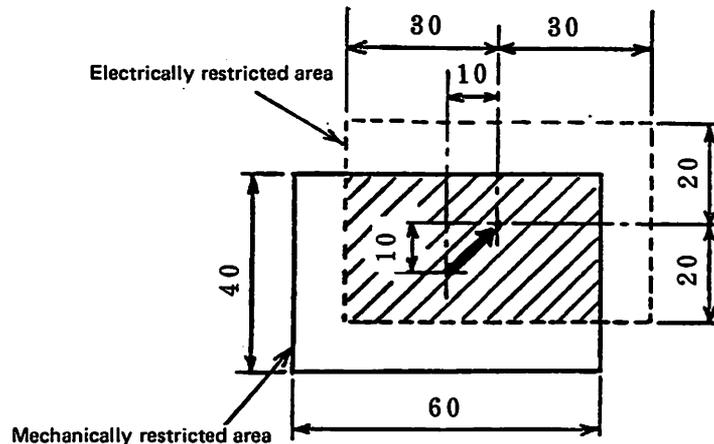

Fig. 10.26
- (4) Although the sewing area measures 60 mm by 40 mm in terms of mechanical restriction, the electrically controllable sewing area measures 30 mm each in left and right direction, and 20 mm each in forward and backward direction from the home position.
- (5) When the home position is changed, as shown by bold arrow in Fig. 10.26 for example, the sewing area is restricted to the shaded area. (Refer to para. 12.1 (C).)
- 12.1 (C).)